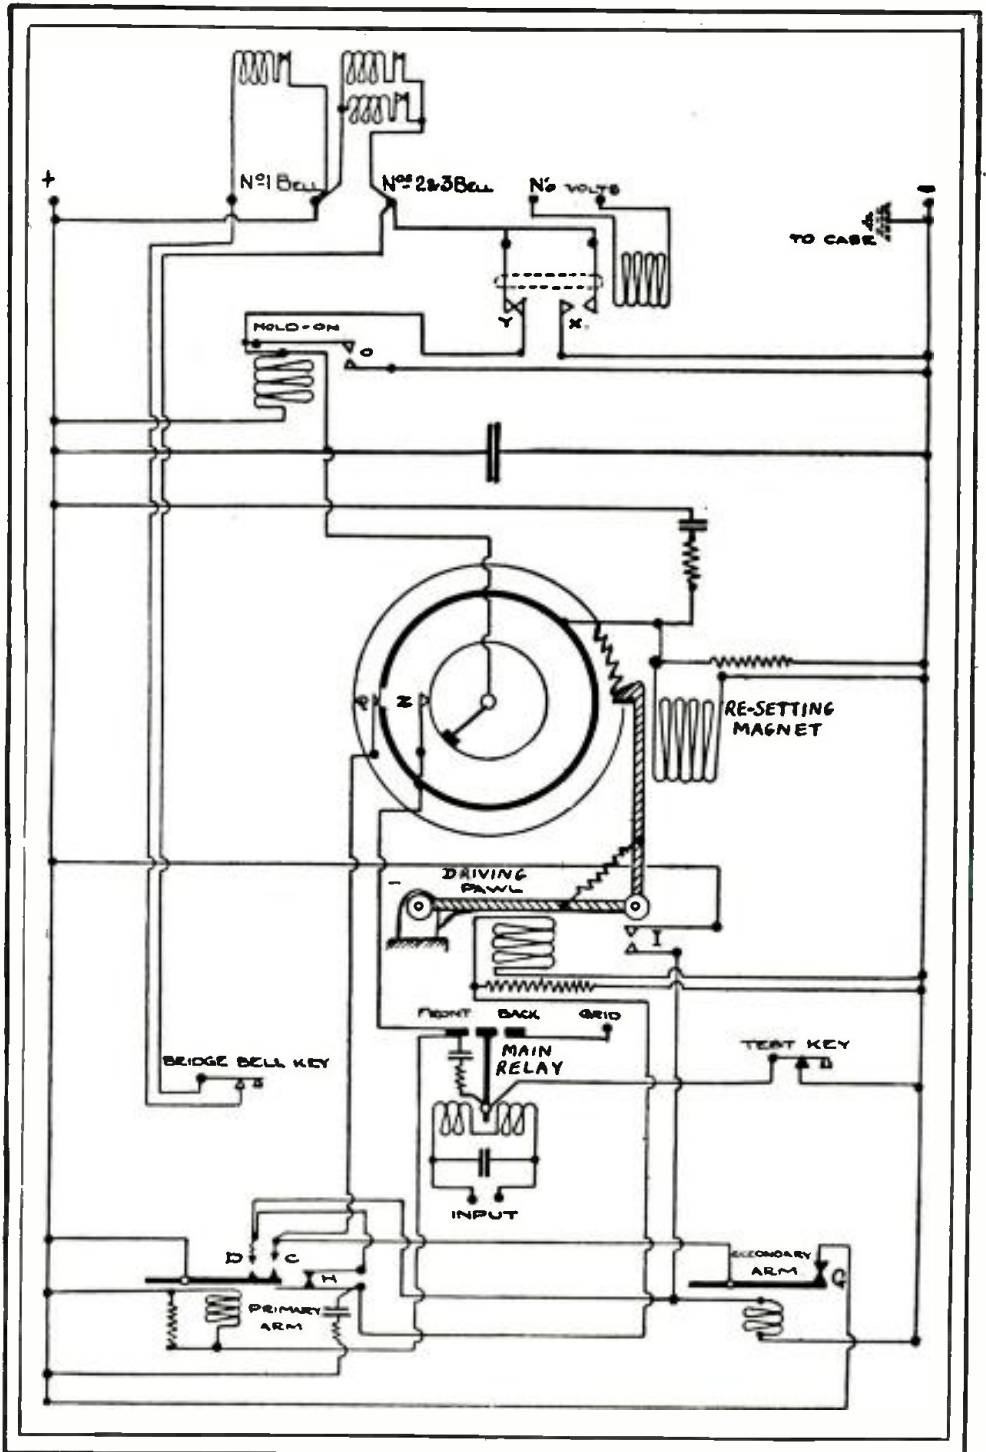

Fig. 2
*This receiver designed for the special purpose of working with the relay of Fig. 2, uses tubes of a special British type. Values of parts are not available.*